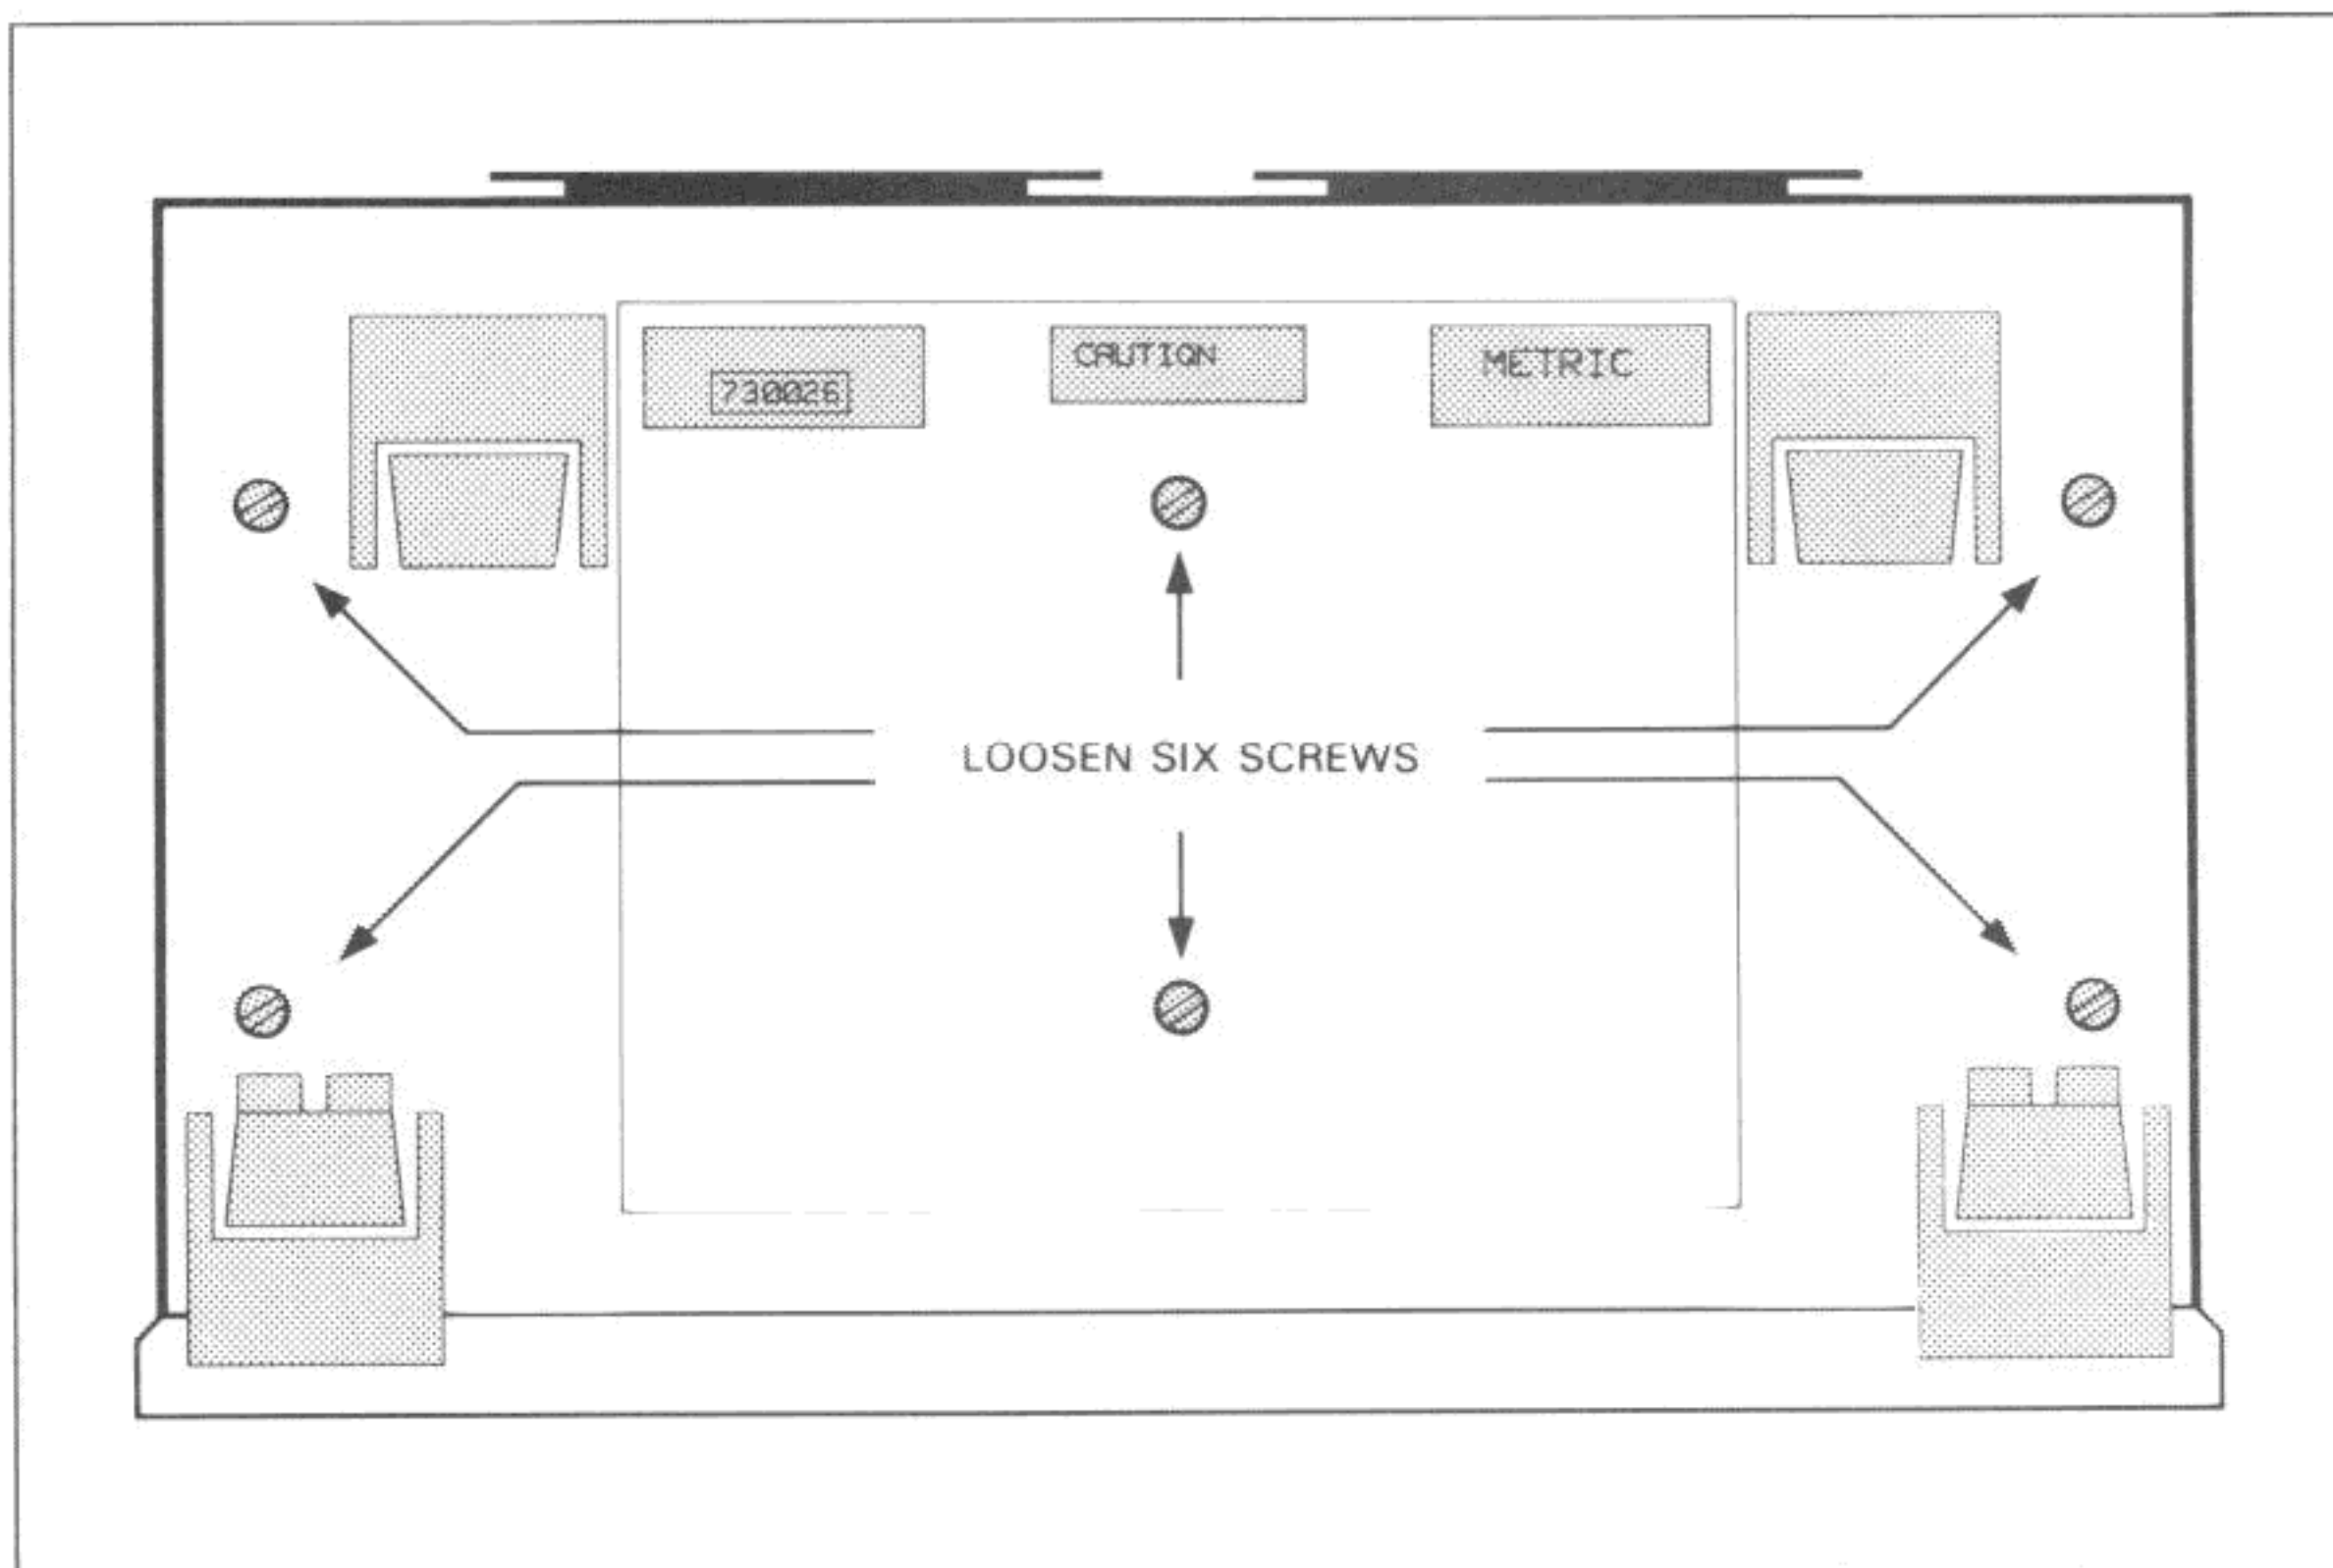

Figure 3-2-2. Loosen Bottom Screws
- c. Turn the instrument upside down. This is preferably done on top of a protective mat to reduce the possibility of scratching or marring the instrument case. Refer to Figure 3-2-2 and loosen the six screws on the instrument bottom.